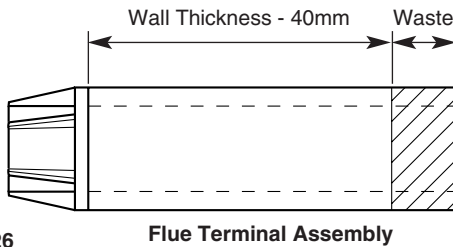

Fig. 26
2. Take the **Flue Terminal Assembly** and measure from the terminal end the wall thickness and subtract 40mm (Fig. 26). Cut the waste off the plain end.